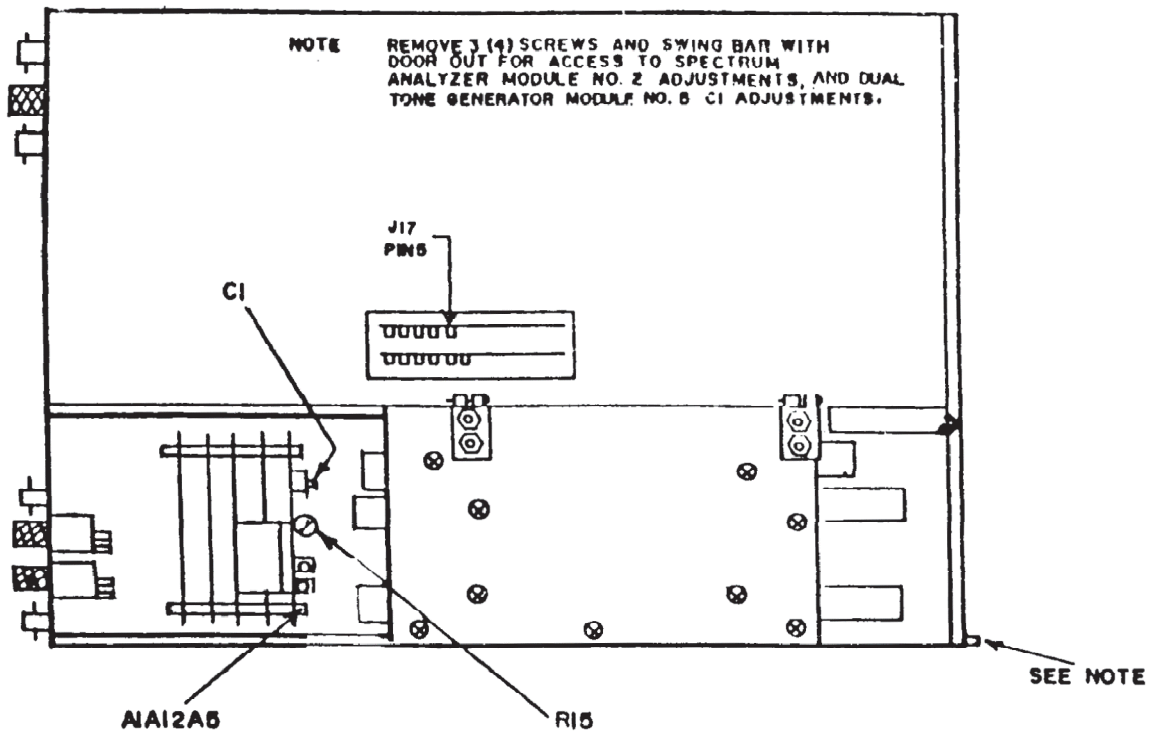

Figure 2. Test Instrument - Bottom View.
(1) Adjust A1A12A5C1 (fig. 2) until frequency counter indicates 1000 Hz ±0.1 Hz.
(2) Adjust A1A2A5R15 (fig. 2) until frequency counter indicates 1000 Hz.